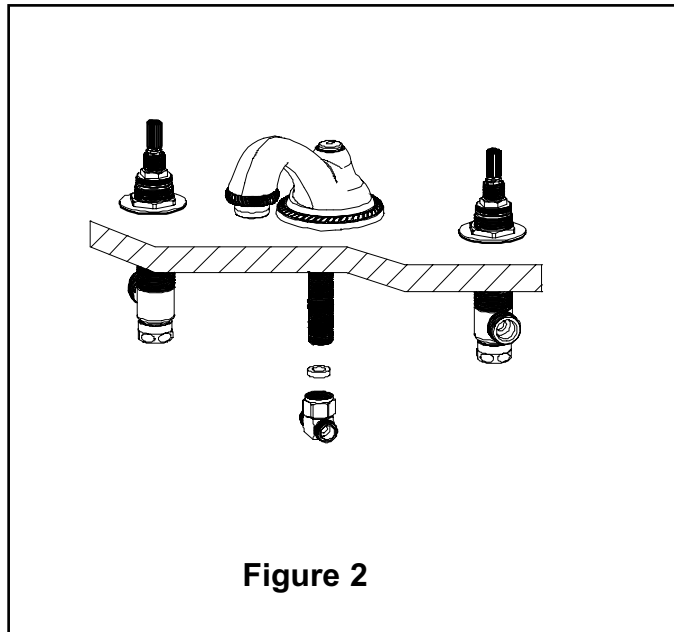

Figure 2
3. Insert rubber washer into tee and attach to spout shank. See Fig. 2